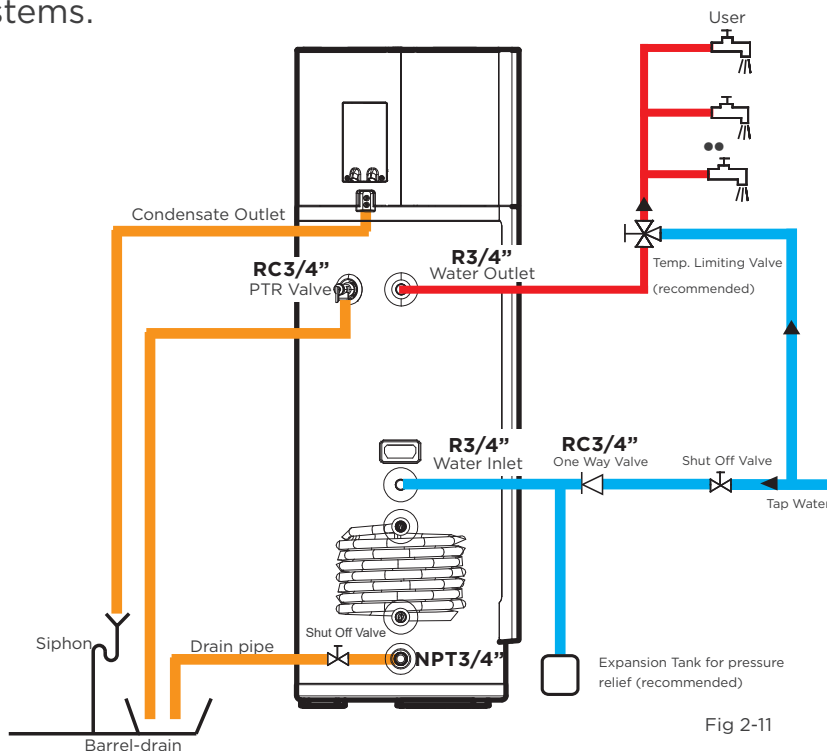

Fig 2-11
- Connect water pipes as the above Figure 2-11 .
Connect the two condensate drain pipes in the fitting to the condensate outlet, as shown in fig 2-11.